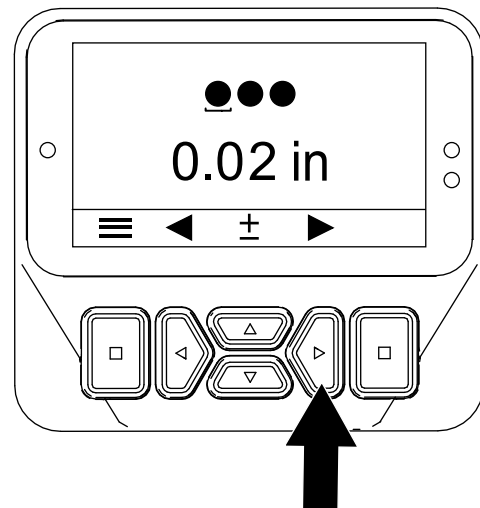

Figure 49
- Press the right button to display the Setting the Tine Diameter screen (Figure 49).